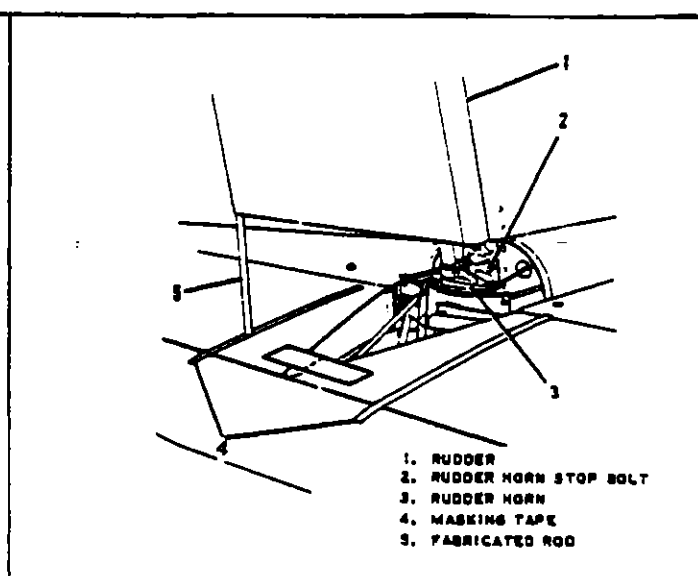

FIGURE 5-7. CHECKING RUDDER TRAVEL
- 4 With the small rod inserted into the trailing edge of the rudder, swing the rudder in both directions to determine that the pointer intersects the inboard edge of the tapes (Refer to Figure 5-7)